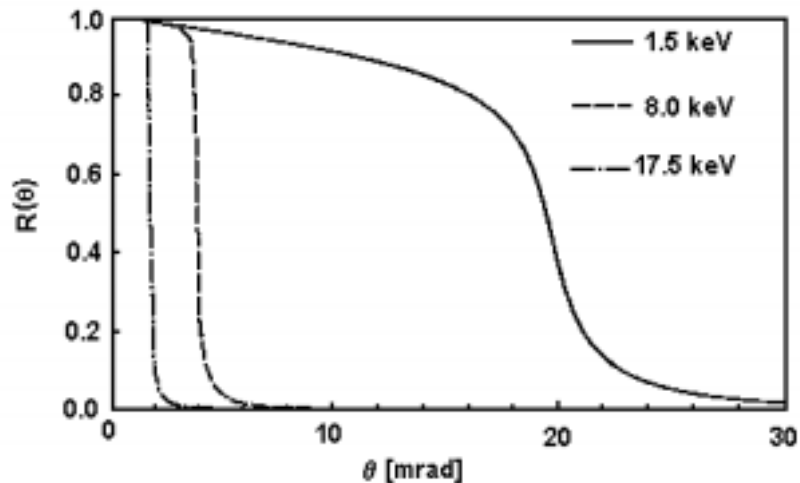

Figure 1.3.4.1. Reflectivity $R(\theta)$ of SiO_2 as a function of incident angle θ for various energies of X rays.
where θ is angle of the incident beam measured from surface. Fig 1.3.4.1 shows reflectivity of SiO_2 calculated by formula (9). The shape of the curves indicates that such a reflector can be used as low pass energy filter. By fine tuning angle of reflector, one can remove high-energy components from incident beam.